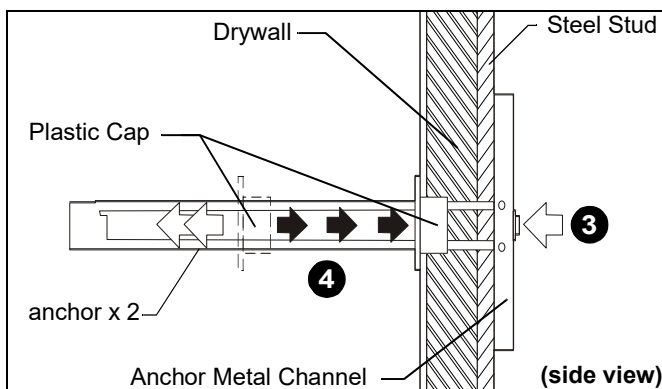

Figure 13
3. Holding plastic straps on anchor, pull anchor away from wall until channel rests flush behind wall making sure anchor channel is positioned vertically on stud. (See Figure 13)
4. Slide plastic cap on anchor towards wall until flange of cap is flush with wall. (See Figure 13)